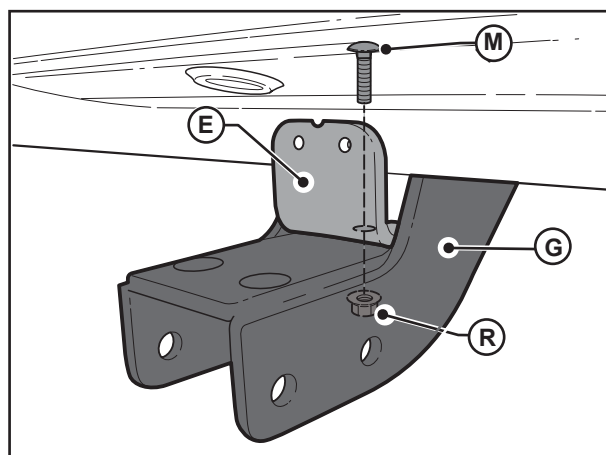

FIGURE 9
- Install Front Panel Bracket (**item E**) to the Front Mounting Bracket (**item G**) using the M8 coach bolt (**item M**); and M8 flange nut (**item R**) as shown in Figure 9.